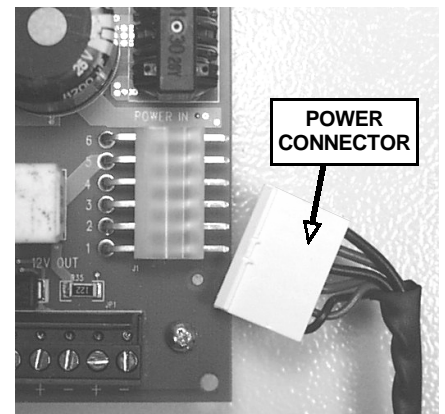

Figure 1: Remove Power.
1. **Remove power from the SUPER TWO®.** Inside the housing, remove the 6-pin Molex connector marked "Power In" located at the lower-right side of the panel. (see Figure 1 at right). Ensure that all power LED's are off.